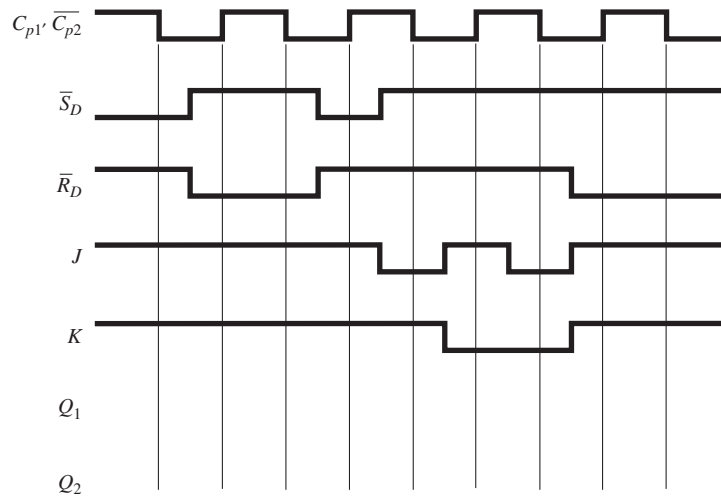

Figure P27
- C 27. Repeat Problem 26 for the input waveforms shown in Figure P27.